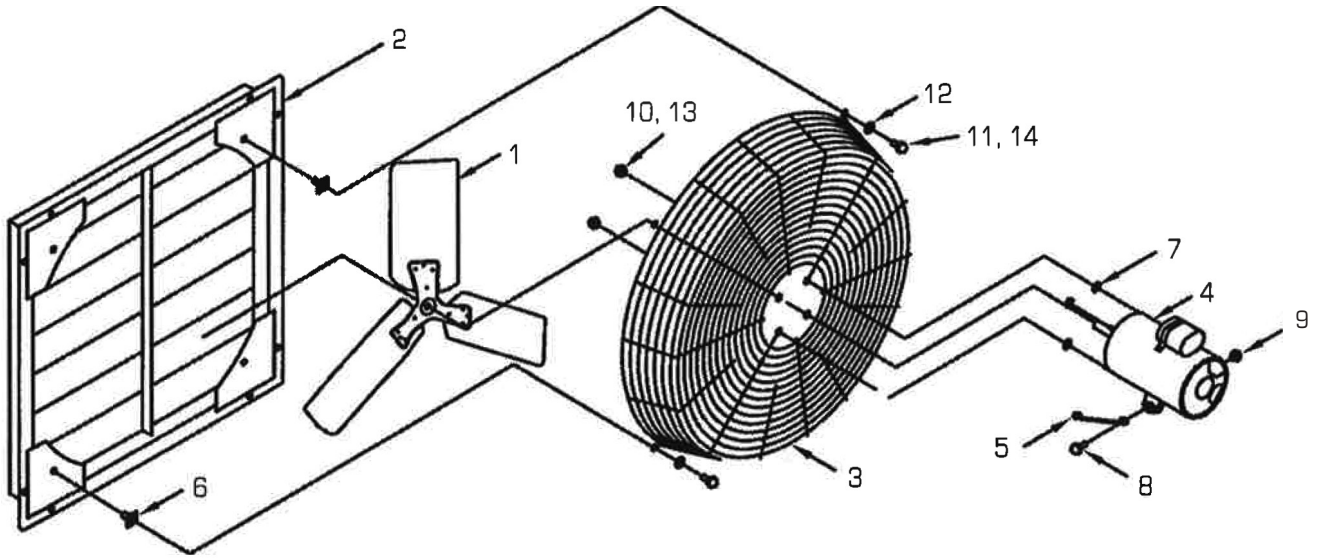

Figure 3. Repair parts illustration
1. Refer to Figure 3 for correct positioning of parts.